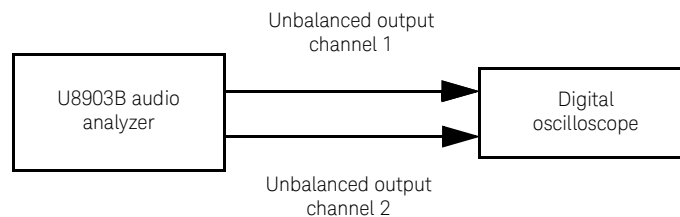

Figure 2-5 U8903B to oscilloscope connections for square wave rise time verification
- 1 Connect the U8903B Unbalanced output channel 1 to the digital oscilloscope channel 1 and Unbalanced output channel 2 to the digital oscilloscope channel 2 as shown in **Figure 2-5**. Preset both the U8903B and the digital oscilloscope.